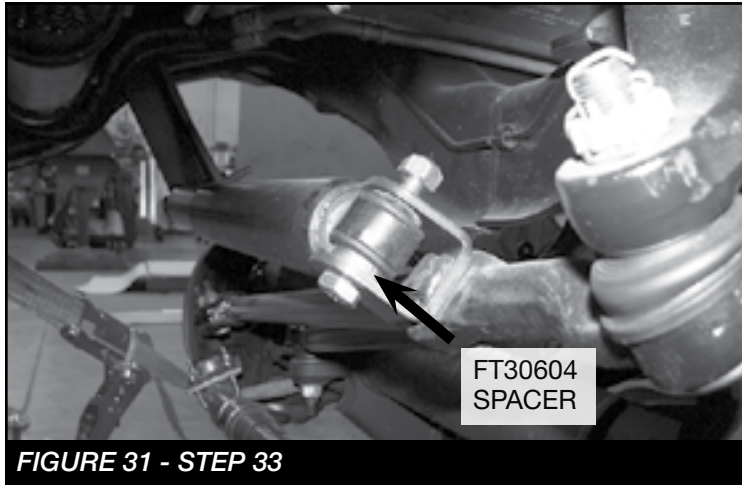

FIGURE 31 - STEP 33
33. Install FT30686 (Stabilizer Clevis) on the factory steering stabilizer using the supplied M12-1.75 x 70mm hardware. **NOTE: Install FT30604 (spacer) like shown in the figure below.** Install the stabilizer using the supplied 9/16" washer and nut to the drag link. Using the factory hardware install the tapered end into the new Fabtech bracket. Torque to 127 ft-lbs. **SEE FIGURE 31**